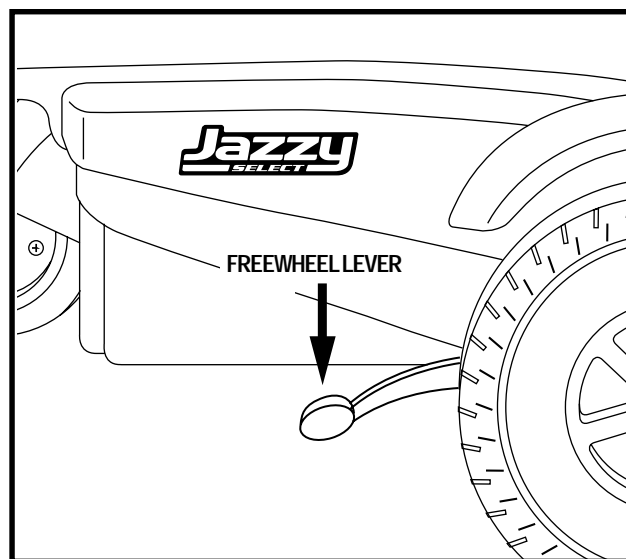

Figure 9. Freewheel Mode (Drive Disengaged)
3. Push both levers downward to disengage the drive motors. See figure 9.